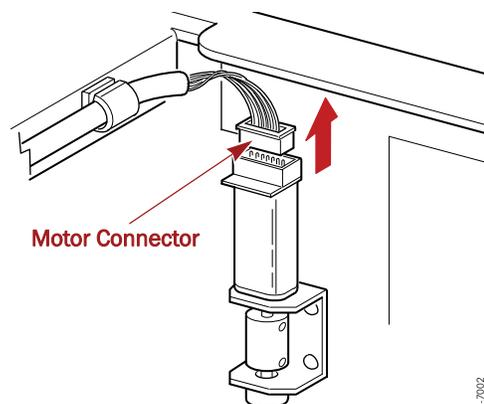

Figure 6. Remove Front Z-Axis Motor Cable (Inside View)
- 2. Tilt the assembly inward and remove the **7-pin connector** from the Z-Axis drive motor top (Figure 6).